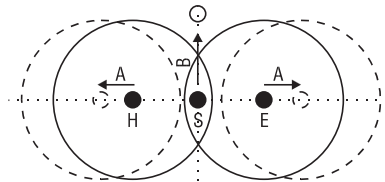

Figure 30: Voltage Funnel
- B:** position the earth rod for the probe to one point of the line outside the voltage funnel, as shown in Figure 30, and repeat the measurement.
B: position the earth rod for the probe to one point of the line outside the voltage funnel, as shown in Figure 30 (page 23) , and repeat the measurement.